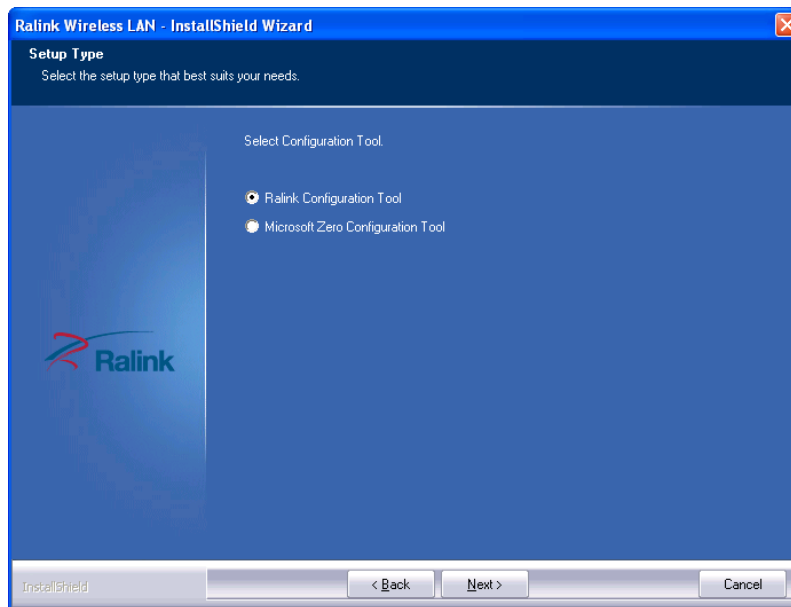

Figure 5-36: Configuration Tool
Step 8: The **Configuration Tool** screen in **Figure 5-36** appears.